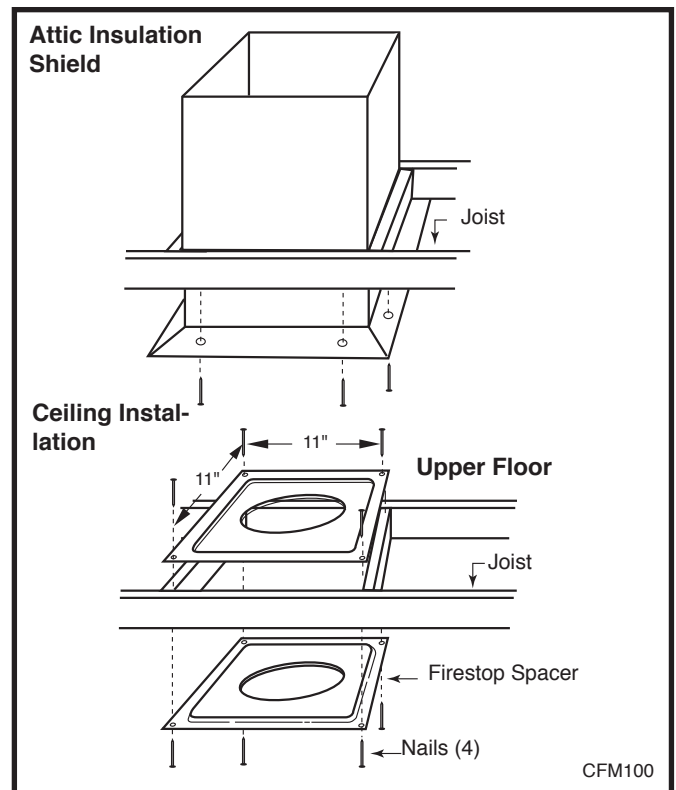

Fig. 35 Place firestop spacer(s) and secure.
6. Place firestop(s) #7DVFS or Attic Insulation Shield #7DVAIS into position and secure. (Fig. 35)
! If there is room above ceiling level, firestop spacer must be installed on both the bottom and the top side of the ceiling joists. If an attic is above ceiling level a 7DVAIS (Attic Insulation Shield) must be installed. (Fig. 35)